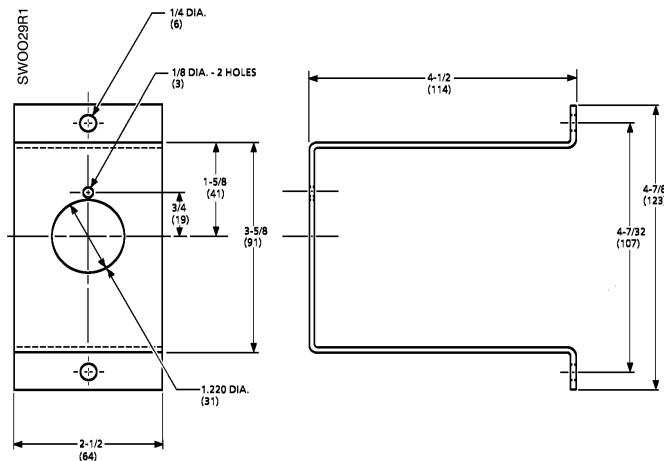

Figure 3. Surface Mounting Bracket.
- Using the bracket as a template, drill holes for mounting the bracket. See *Figure 3*. Mount the bracket.